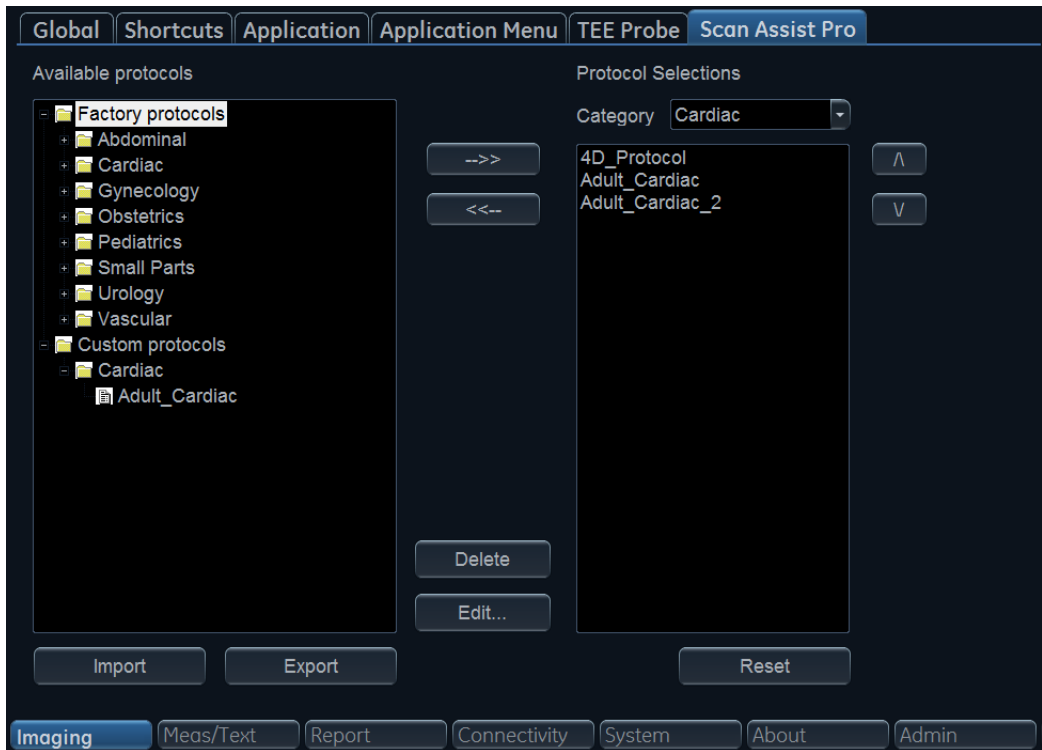

Figure 5-25. The Scan Assist Pro sheet
1. Select the desired **Category** under Protocol Selections on the right-hand side of the *Scan Assist Pro* sheet (Figure 5-25 on page 5-63).